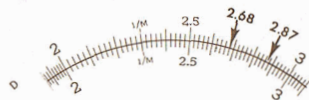

Figure 7
**Procedure:** Move the indicator to primary division 2 (which is the "first significant digit"). Digit 6 is the sixth secondary division to the right of primary division 2. Since the finest subdivisions have a value of 0.02 each, digit 8 is the fourth finest subdivision to the right (see Figure 7).
When the number is not found to fall exactly on a division, it is necessary to interpolate visually between divisions. For example, 2.87 is located one-half of the way from 2.86 to 2.88 as shown in Figure 7.